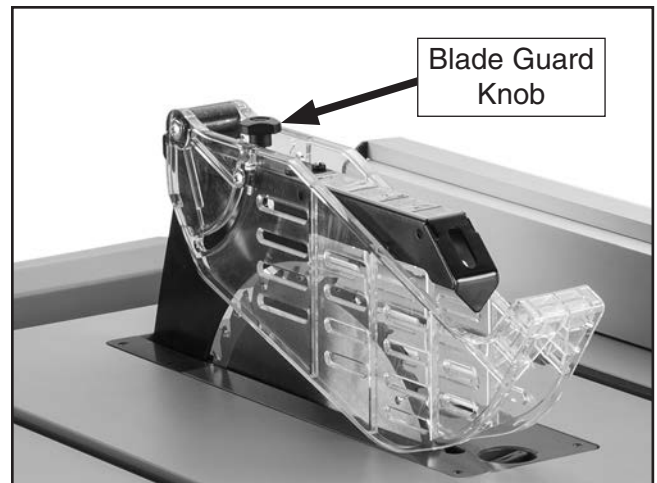

Figure 16. Location of blade guard knob for installing anti-kickback pawls.
- Loosen blade guard knob (see **Figure 16**), slide upper blade guard assembly toward front of saw, and remove it from spreader.
8. Re-install upper blade guard assembly and tighten blade guard knob (see **Figure 16**).